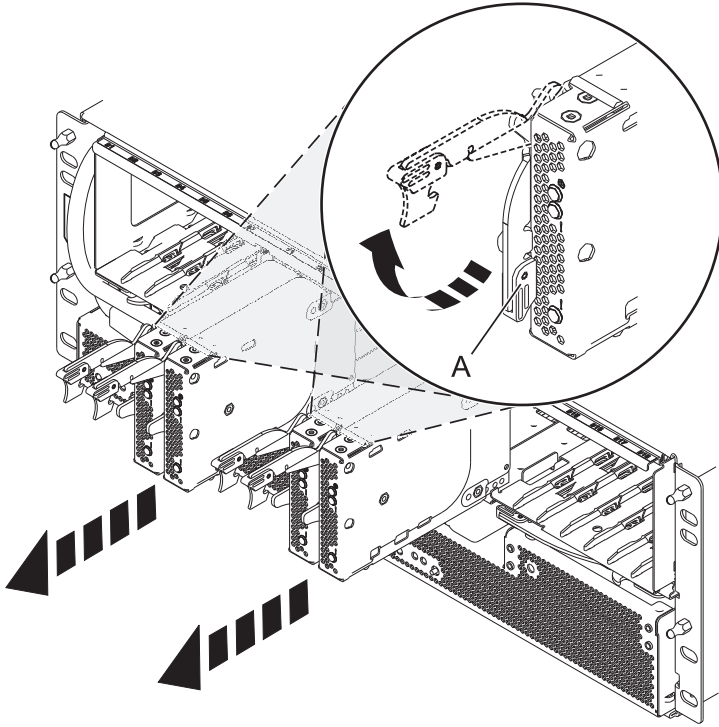

Figure 2. Removing the port card from the disk drive backplane
9. Remove the port cards and fillers from the disk drive backplane in the 5802 expansion unit as shown in Figure 2 on page 4.